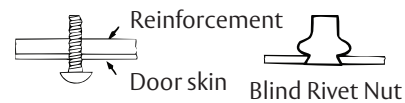

Figure 4
- Doors and Frames with walls having a structural thickness (metal skin plus reinforcement or solid hardwood) to engage less than (3) full screw threads are considered unreinforced.
- Recommended fasteners for unreinforced openings are not necessarily supplied by Corbin Russwin (Figure 4).